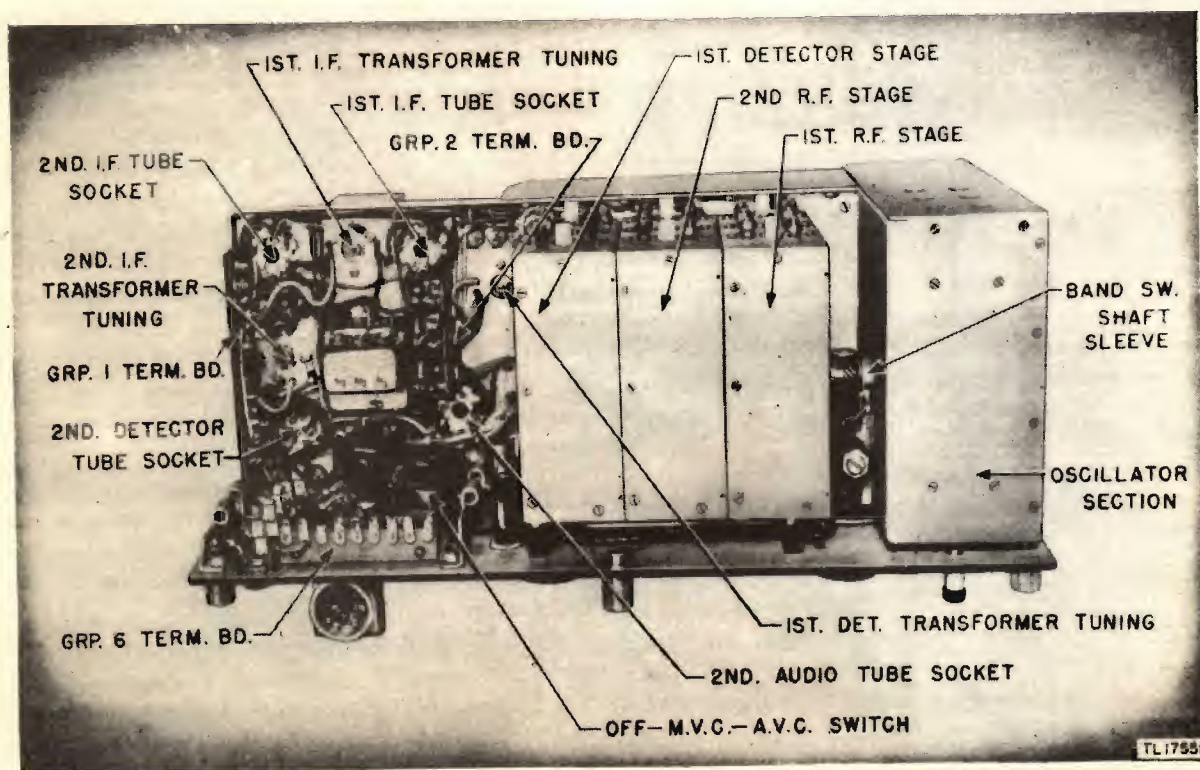

Figure 14. Receiver chassis bottom view.
(1) The resistance between terminals D and T, the two large pins of socket SO1, should be infinite, except in receivers containing an oscillator compartment heater. In these receivers, the resistance reading should be 4 ohms. A resistance reading in receivers which do not contain oscillator compartment heaters indicates a short circuit in the filament or dial lamp wiring which must be corrected before power is applied to the receiver.
(2) The resistance between terminal No. 7 of the group-6 terminal board (fig. 14) in the receiver and chassis should be approximately 16,500 ohms ( $\pm 10$  percent). If the resistance is zero, check capacitors C50, C61, C74, and C80, and the high-voltage wiring. If the resistance is low, check for a shorted bypass capacitor in one of the plate or screen grid circuits, a short in the wiring of one of the plate or screen grid circuits, or leakage in capacitor C50, C61, C74, or C80. If the resistance is higher than normal, it indicates an open screen voltage dropping resistor. To prevent possible damage to the dynamotor, correct all abnormal